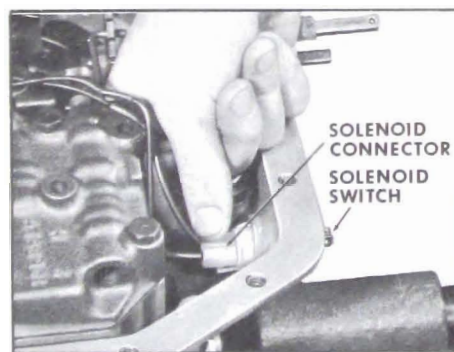

Figure 5-351
11. Install solenoid connector to solenoid switch. See Figure 5-351.